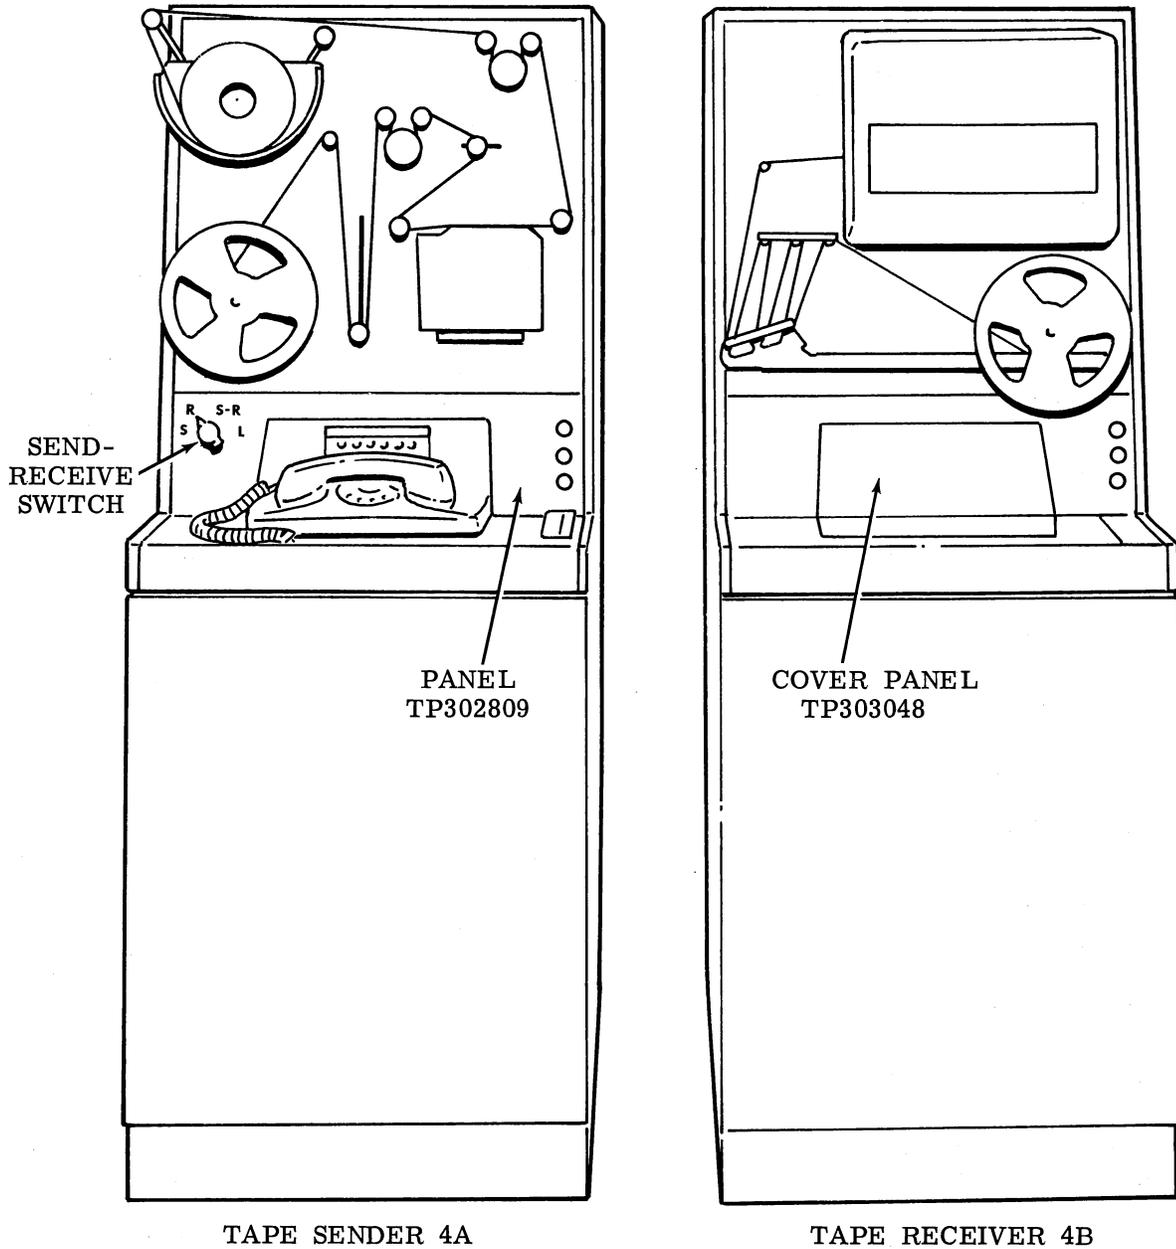

Figure 1 - Send-Receive Terminal
- 1.02 This feature may be installed in either the factory or the field. See Figures 1 and 2.
3.01 Figures 1 and 2 illustrate the mounting location of the send-receive switch in the sender and receiver. Refer to the appropriate parts section for illustrations showing the various parts and assemblies in detail.